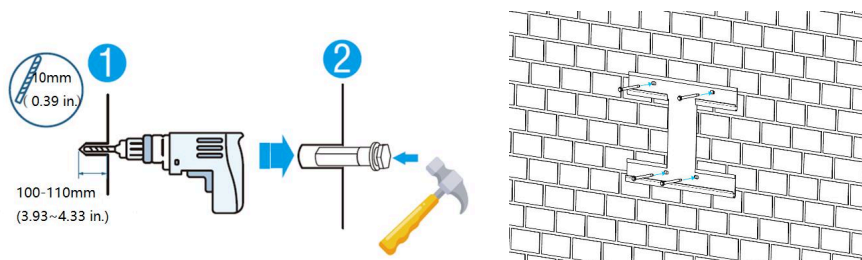

Figure 5-1
b) Choose the recommend drill head (as shown in Figure 5-1) to drill 4 holes on the wall, 100mm-110mm deep.
c) Use a proper hammer to fix the hanging plate to the wall, fit the expansion bolt(M6\*100) into the holes, as shown in Figure 5-1.